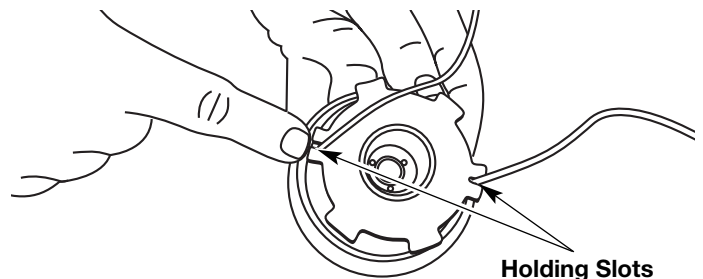

Fig. 19
- Insert the ends of the line into the two holding slots (Fig. 19).